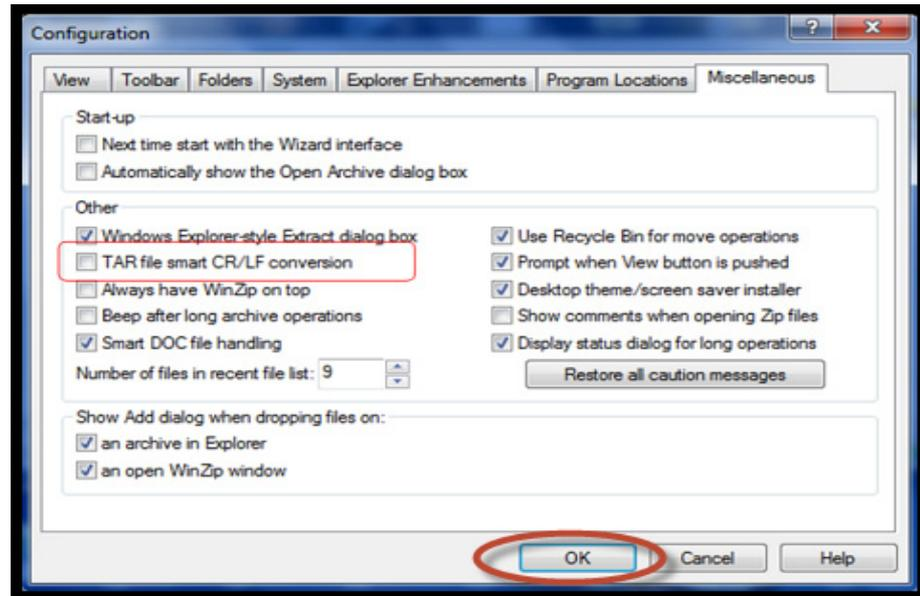

Figure 97 Clearing the TAR file smart CR/LF conversion checkbox
4. Clear the **TAR file smart CR/LF conversion** checkbox, and then click **OK**, as shown in Figure 97 on page 86. The box will remain unchecked until it is selected again, or WinZip is reinstalled.